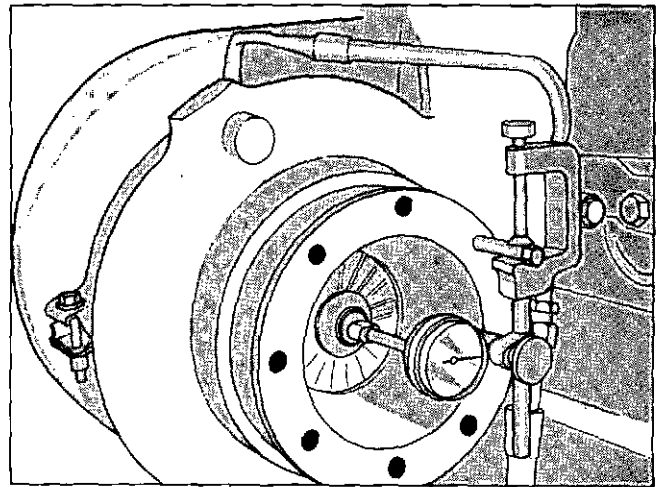

Fig. 2-66. (OM1065L). Check turbocharger bearing end clearance.
Check bearing clearances. This can be done without removing the turbocharger from the engine, by using a dial indicator to indicate the end-play of the rotor shaft and a feeler gauge to indicate the radial clearance. Fig. 2-66.
2. Remove one capscrew from the front plate (compressor wheel end) and replace it with a long capscrew. Attach an indicator to the long capscrew and register the indicator point on the end of the rotor shaft. Push the shaft from end-to-end making note of the total indicator reading. Fig. 2-66. On T-50, ST-50 and VT-50 the end clearance should be 0.006 to 0.018 inch [0.15 to 0.46 mm].